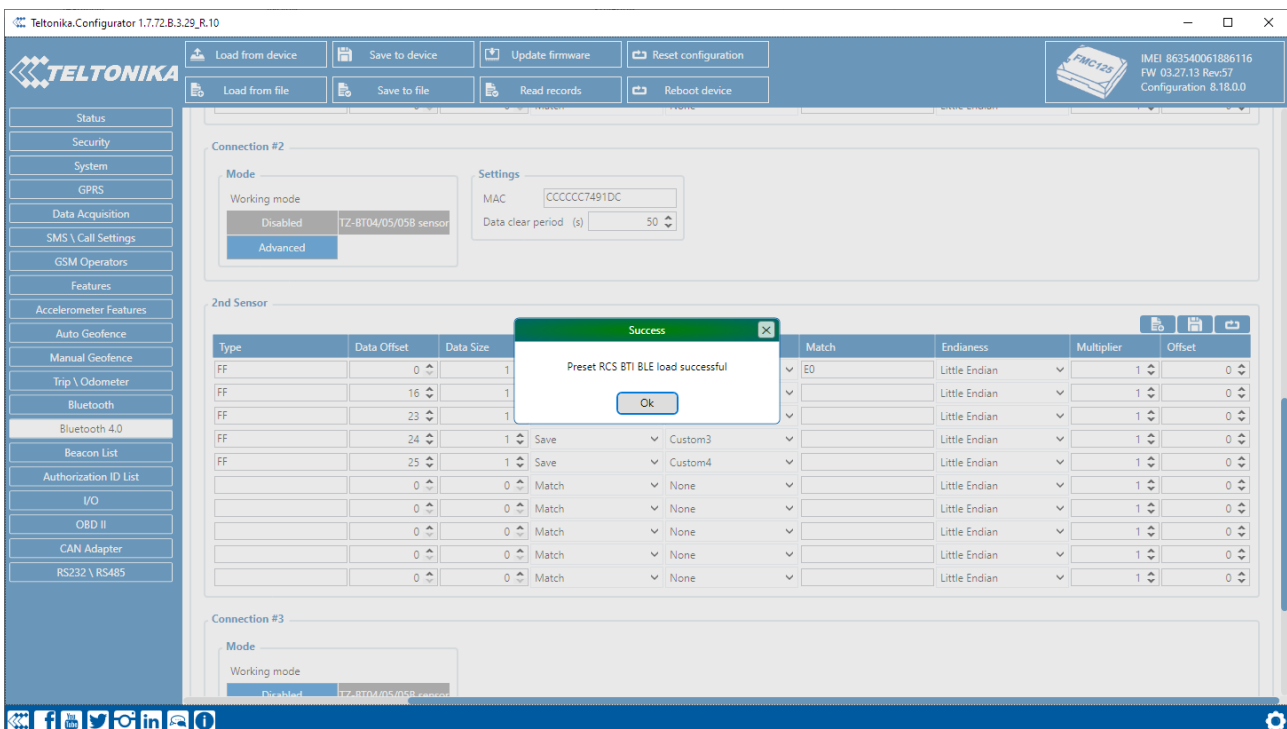

Figure K.7
3. The template will be loaded, the parameter fields will be filled in (Fig. K.7):